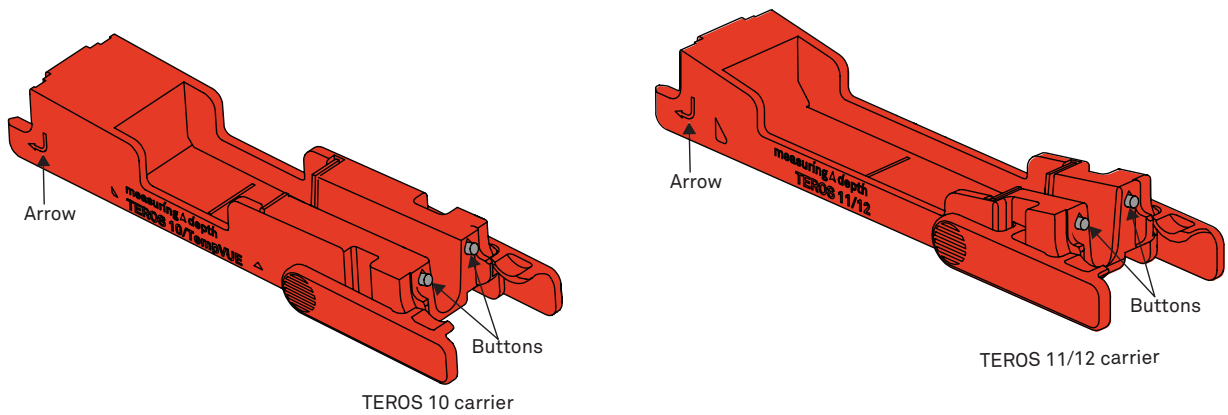
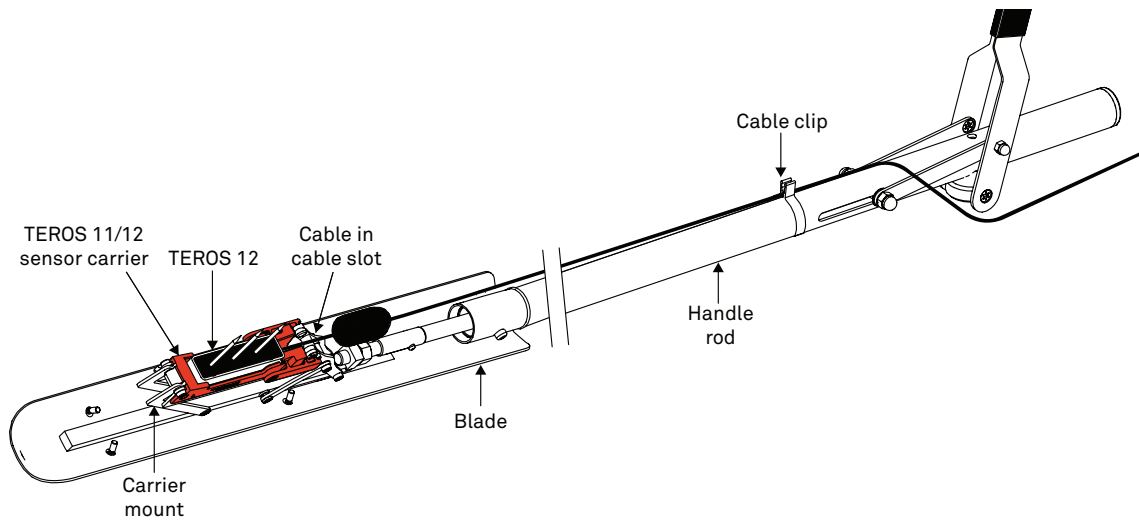

Figure 11 TEROS 10 and 11/12 sensor carriers
Figure 13 TEROS 12 sensor inserted in sensor carrier with mount extended
1. Select the appropriate carrier that corresponds to the sensor to be installed (Figure 11).
2. Find the **Arrow** at one end of the sensor carrier (Figure 11).
1. Position the sensor into the corresponding carrier (Figure 13 shows the TEROS 12 inserted into the carrier).
NOTE: The sensors can only be inserted while the carrier mount is extended position as shown in Figure 13. When the handle lever is moved into the retracted position, the two buttons on the front of the sensor carrier extend (Figure 11) to hold the sensor in place.
3. Press the sensor cable into the carrier cable slot (Figure 13).